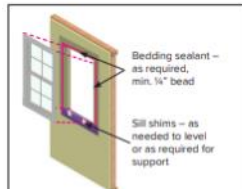

Figure 3. Apply sill shims and bedding sealant, set window into center of opening, and temporarily secure with flange nail.
- Apply the window manufacturer's recommended bedding sealant (min. 1/4\" bead) to the rough opening perimeter approximately 1/2\" to 3/4\" from the edge of the rough opening (see Figure 3). **DO NOT** apply bedding sealant to sill flange where sill pan flashing is used (see Step 2, Item c).
- Where sill shims are required by the manufacturer or where the sill is not level, shims may be placed and tacked into level position prior to setting the window unit. See Figure 3.
- With the window closed and in locked position, set into the center of the rough opening and fasten the center nail hole of the top flange to the rough opening with the manufacturer's recommended flange fastener, or initially secure as otherwise recommended by the manufacturer (See Figure 3). Verify that the required gap between the window head and header is present.